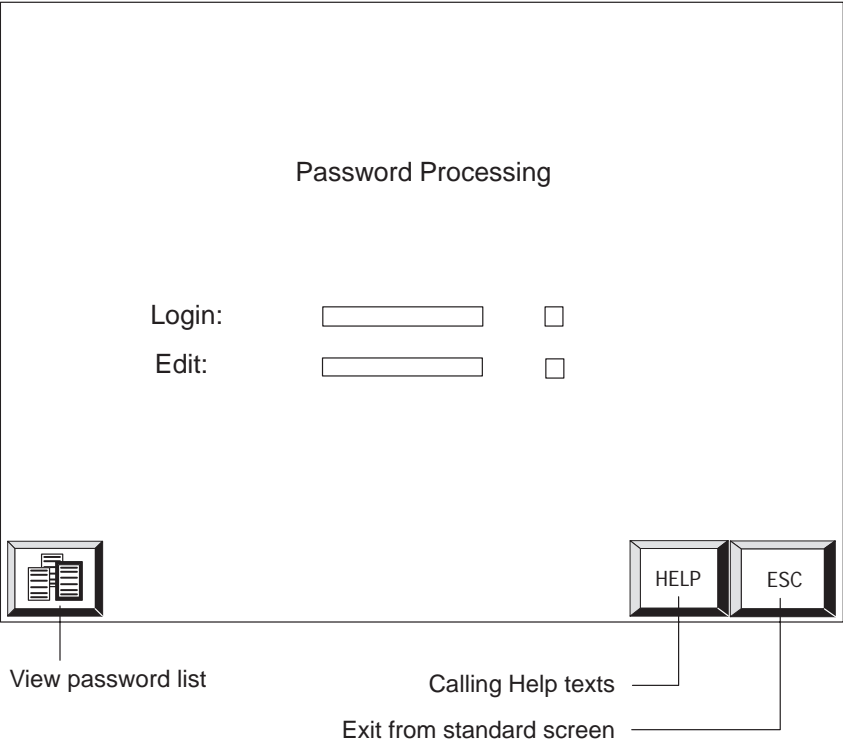

Figure 5-1    Standard screen *Password Processing*
**Standard screen**                      The *Password Processing* standard screen (figure 5-1) provides the following functions:
| 1    | Call the standard screen Password Processing .   | The standard screen is displayed (figure 5-1).  |
| 1    | Call the standard screen Password Processing .   | The standard screen is displayed (figure 5-1).                       |